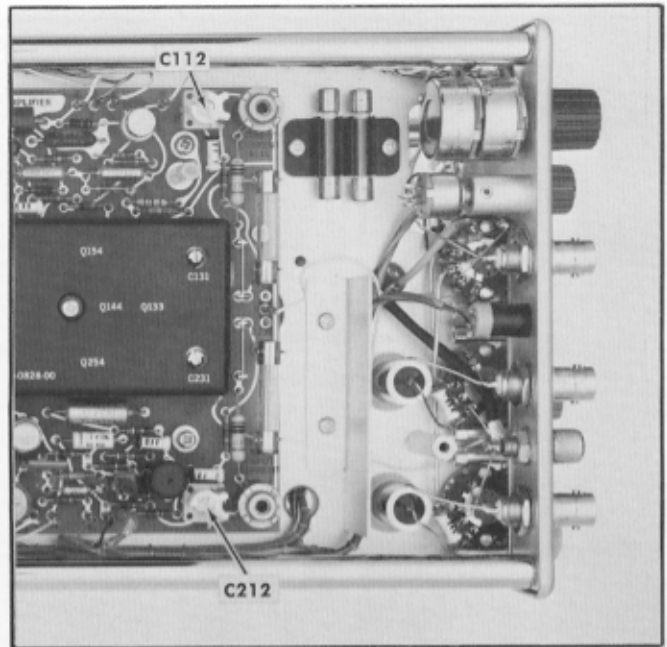

Fig. 5-16. Location of C212 and C112.
- g. ADJUST—C212 (see Fig. 5-16) for minimum aberration.
- d. ADJUST—C112 (see Fig. 5-16) for minimum aberration.